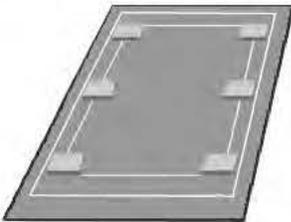

Figure 2
**Step 2.** Set building on six points; position the 4"x8"x16" solid cement blocks proportionately to bear the weight. These blocks should form a rough 3'x9' rectangle for the building to sit on. Position the cement blocks perpendicular to the skids to better bear the weight. Figure 2. Consult the pier configuration in the following pages.